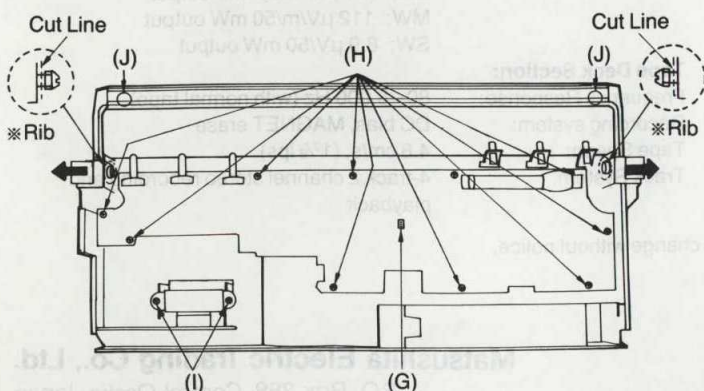

Fig. 3
- ※3. To remove the handle, first remove two screw (J) and open the handle arm as shown in direction of the arrow in Fig. 3.